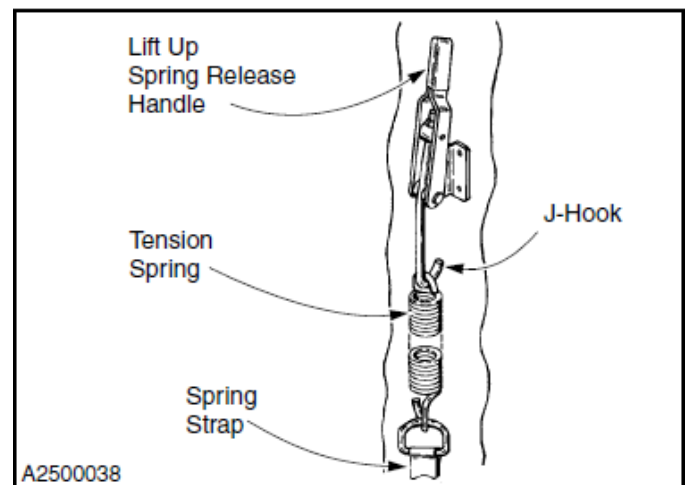

Figure 8
8. Reapply tension to the tension strap by raising the spring release handle and locking it in place. (See Figure 8)